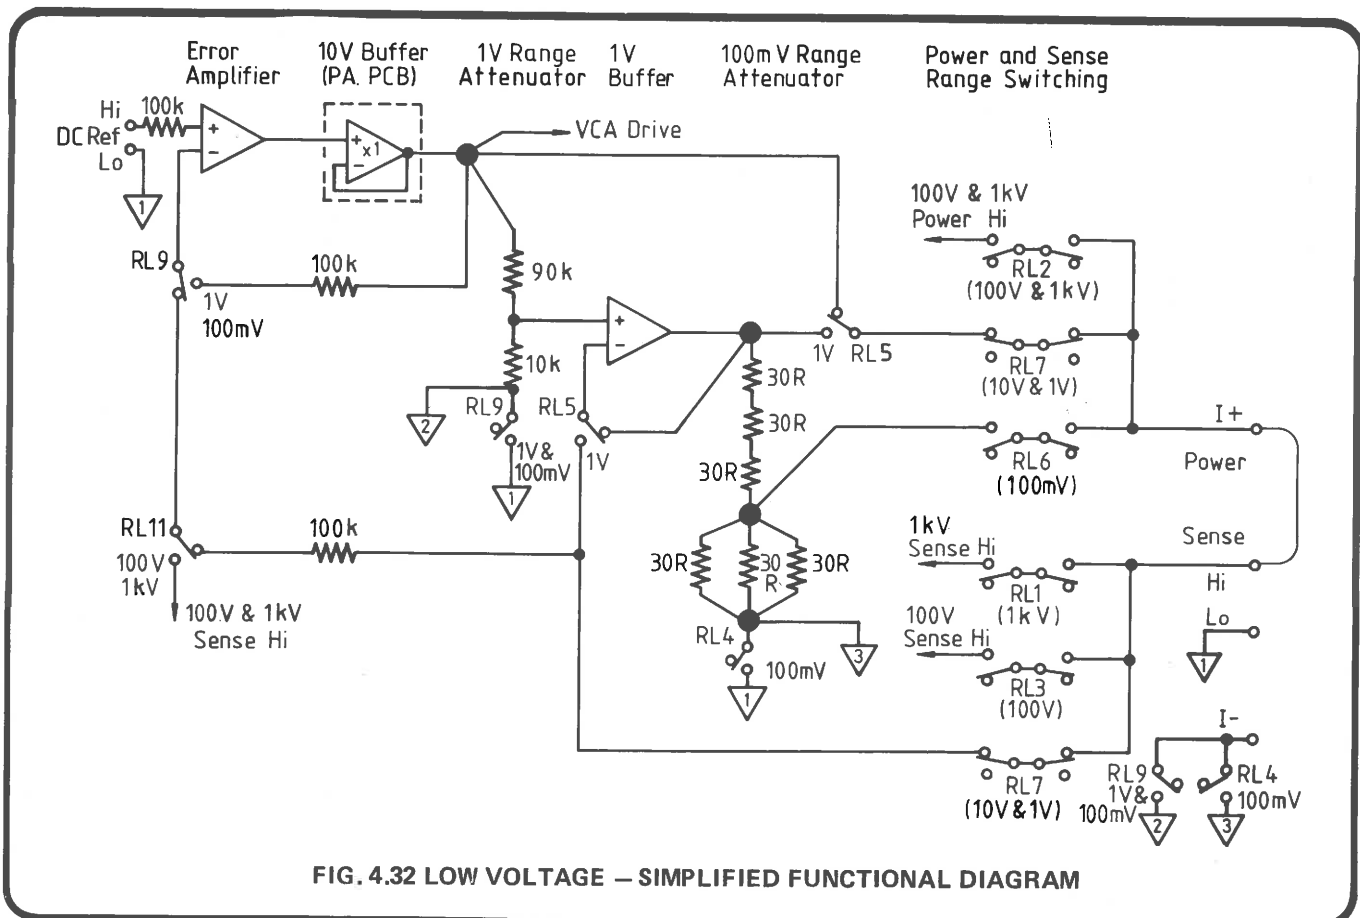

FIG. 4.32 LOW VOLTAGE – SIMPLIFIED FUNCTIONAL DIAGRAM
- (1) Buffer the DC REF voltage (-20V to +20V) and provide output voltages to the instrument terminals, on 10V DC Range.
- (2) Attenuate the 10V Range voltages and provide output voltages (-2V to +2V) on 1V DC Range.
- (3) Further attenuate the 1V Range voltages and provide output voltages:
- (4) Sense the voltages at the output terminals (or at the load in Remote Sense) in closed negative-feedback loops which compare the output voltage with the DC REF (or attenuated DC REF) voltages from the Precision Divider, generating analogue control signals to correct the output voltage on 10V and 1V ranges.
- (5) Provide switching of DC Voltage Output, Range, Guard and Sense, under the control of signals from the Analogue Control Interface.
- (6) Sense excess currents in the output circuit, providing a LIM ST 1 status signal to the CPU via the Analogue Control Interface.
- (7) Sense excess voltages (>130V) on the PHI (I+) output line, providing a HVST status signal to the CPU via the Analogue Control Interface. The low voltage generation circuitry and Range switching are illustrated in fig. 4.32.
4.7.2 10V Range (Fig. 4.32 and Circuit Diagram No. 430445)
In Fig. 4.32 the relay contacts are shown in positions set for the 10V Range. The 1V buffer and attenuators have no effect.
Relays RL5 and RL9 change over to provide the 1V Range Switching. (Four positions on Fig. 4.32). RL9 transfers the sense point of the Error Amplifier and 10V Buffer to the star-point at the top of the 1V Range attenuator, and also connects the lower end of the attenuator to Common-1.